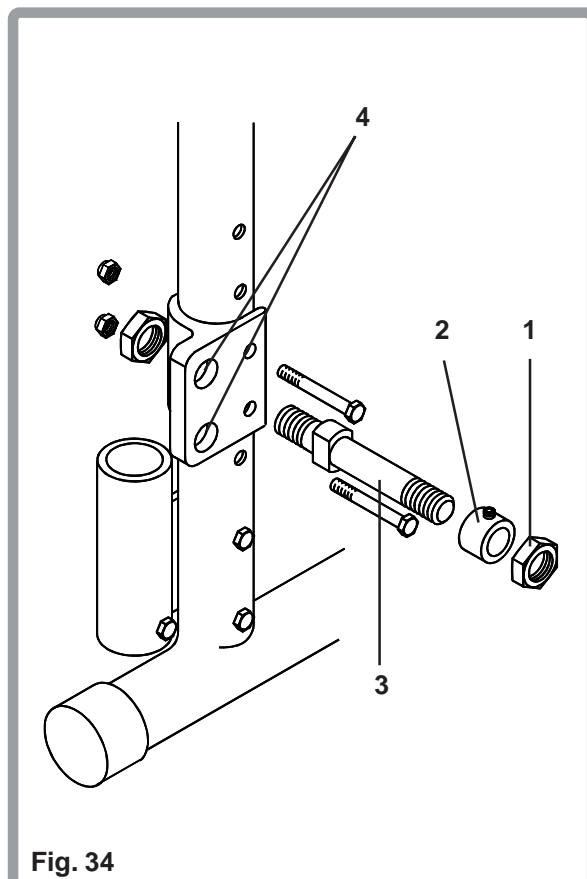

Fig. 34
To adjust the seat height (Fig. 34), remove the wheel by unscrewing the 19mm A/F retaining nut (1, if quick-release axles are not fitted), the wheel spacer (2, if fitted), and the axle (3). Move the axle to the desired position using one of the two holes (4) in the axle plate and replace the axle and tighten to 45Nm torque setting, replace the wheel, spacer and retaining nut and tighten to 45Nm.